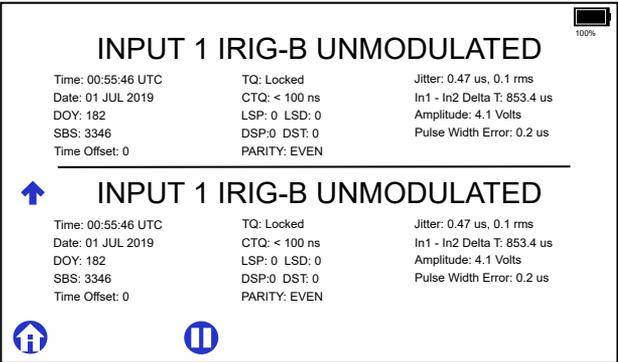

Figure 28: Input 1+2 Text Display Screen
1. In the Home screen DISPLAY menu, touch **INPUT 1+2**. Figure 28 shows an example of the text mode.